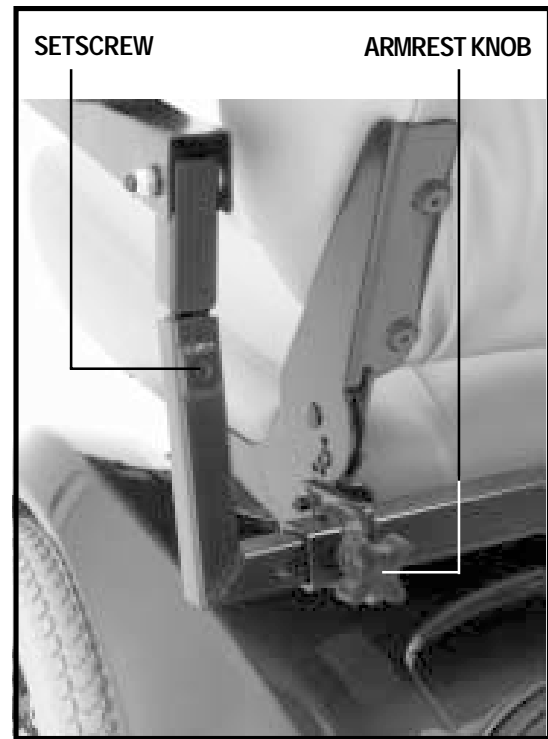

Figure 13. Armrest Width and Height Adjustment
1. Locate the two armrest knobs on the armrest receiver bracket. See figure 13.
Your power chair may be equipped with height adjustable armrests. See figure 13.